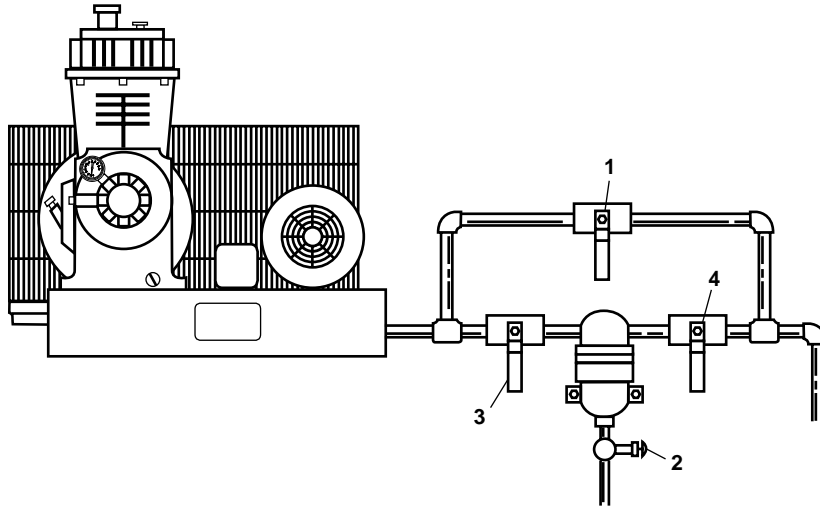

Figure 2. Dryer Valve Locations
2. CLOSE CA-89 and CA-90 COV-COMPR DISCH valves (figure 2, item 1) and CA-93 and CA-94 MOISTURE SEP DR valves (figure 2, item 2).
3. OPEN CA-1 and CA-2 COV-COMPR DISCH valves (figure 2, item 3) and CA-87 and CA-88 COV-COMPR DISCH valves (figure 2, item 4).